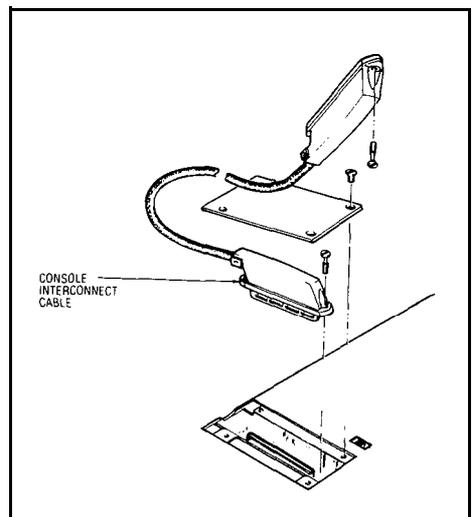

Fig. 302-2
- [3A] Remove the four screws securing the connector cover plate (Fig. 302-2)
(FIG. 302-2)